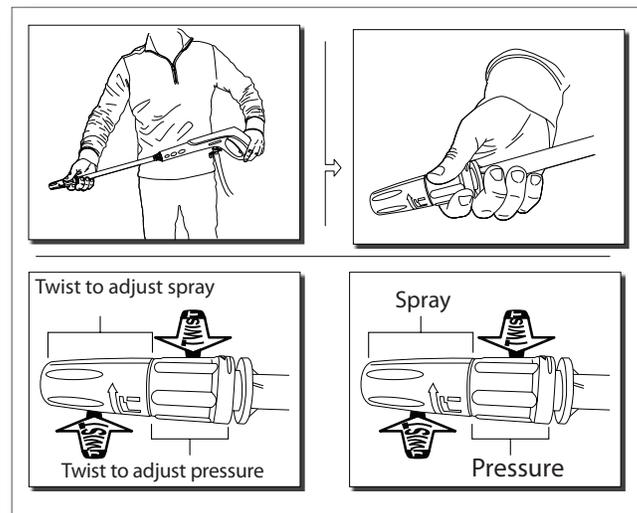

Fig. 23
- Use the high/low nozzle lance when cleaning windows. Be sure to adjust the nozzle to low spray and place the nozzle approximately four to five feet away from the window with the nozzle at forty five degree angle. Squeeze the trigger and vary the spray pattern and angle until optimum cleaning efficiency is achieved (Fig. 23).